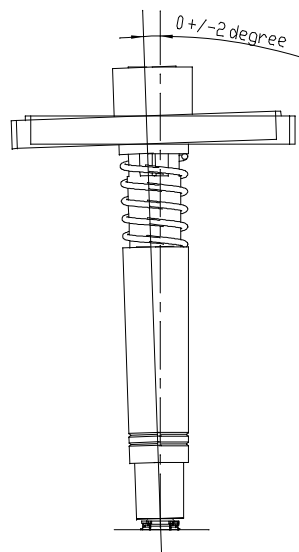

Figure 8. Probe Shape Operation Manual for Auto Measurement probe (MM206417)
3.3 The slant angle tolerance of probe against SWG type Receptacle (Figure 8)